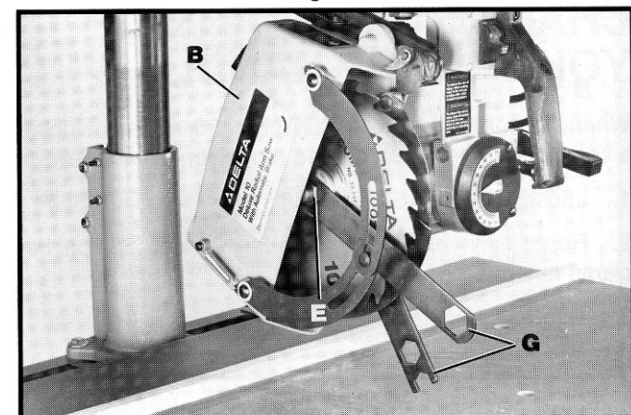

Fig. 62
6. Rotate blade guard (B) Fig. 62, to the rear and tighten arbor nut (E) using two wrenches (G) supplied.